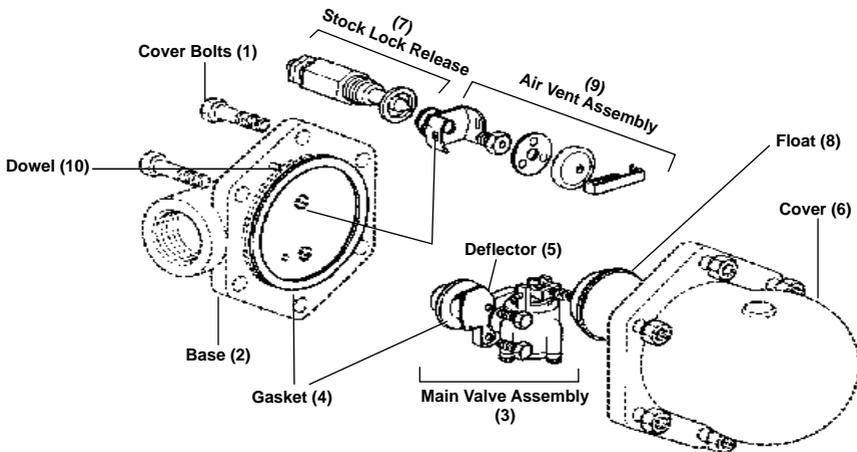

Figure8: Maintaining the main valve assembly
7.4 Maintaining/ replacing the main valve assembly : (Refer to Figure 8)
*The float trap in the figure 8. shows a TV+SLR assembly. SOFT31 (DN40/50) comes with only TV or SLR assembly.
- 9.** Available Spares: (Refer to Figure 8)